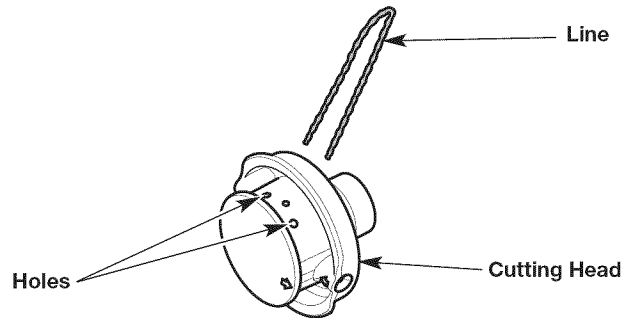
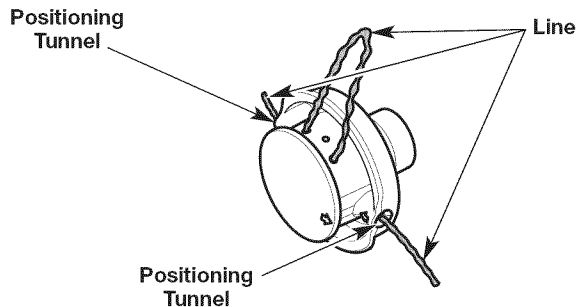

Fig. 13
Fig. 14
3. Insert the ends of the new trimming line into the holes in the cutting head (Fig. 13). Push the line through the holes until both ends protrude from the positioning tunnels (Fig. 14).